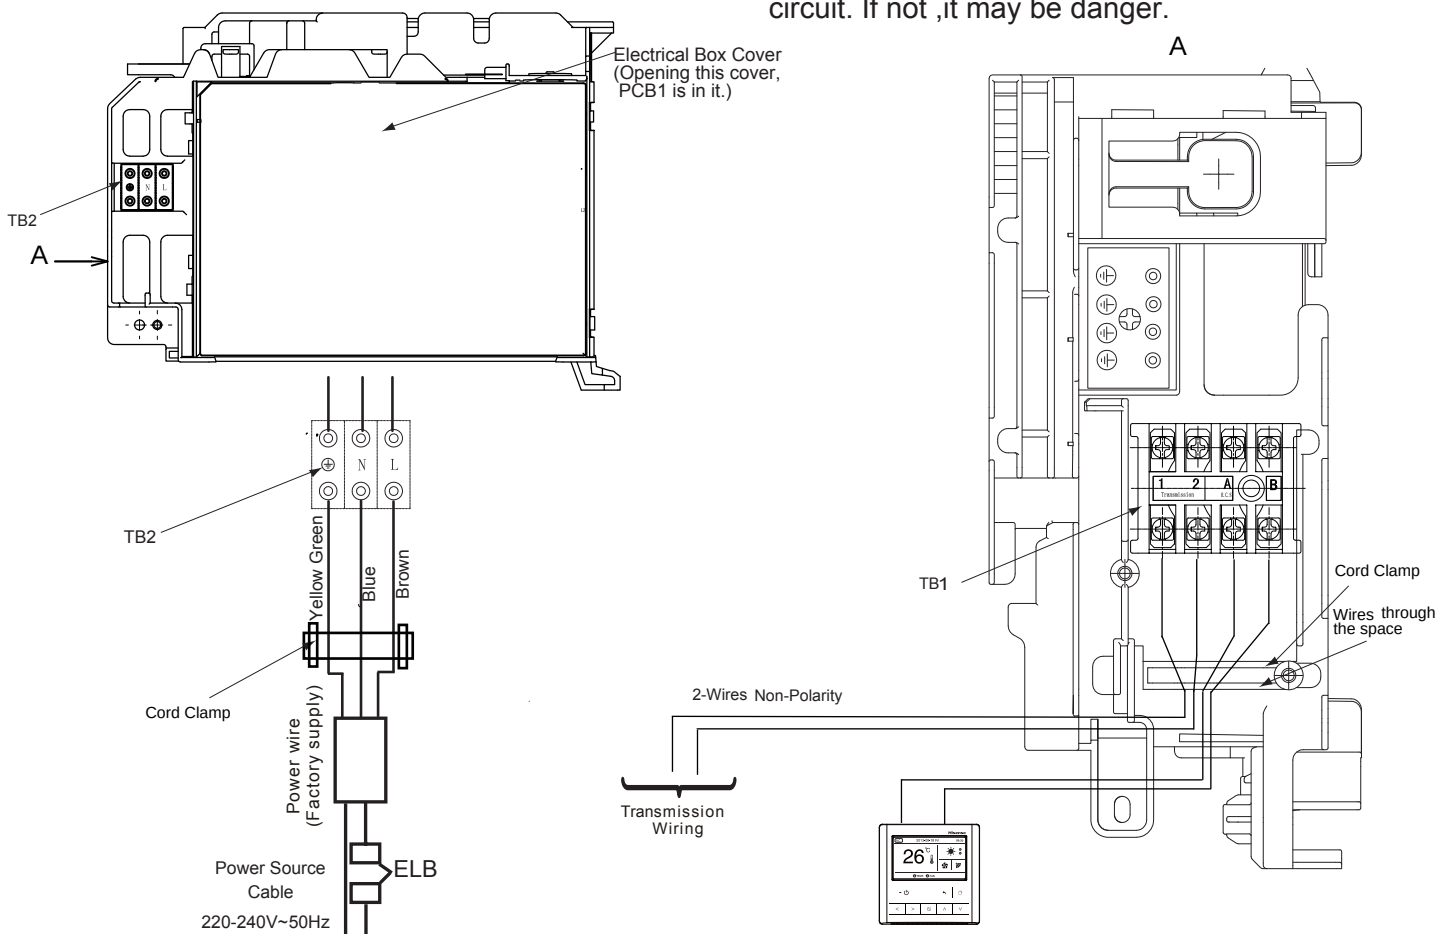

Fig.7.1 Wiring Connection for Electrical Box and Terminal Board
The electrical wiring connection for the indoor unit is shown in Fig. 7.1.
(1) Connect the cable of an optional remote control switch to A, B terminals of the terminal board inside the electrical box through the connecting hole in the cabinet.
(2) Connect the wires between the indoor unit and the outdoor unit to 1,2 terminals of the terminal board inside the electrical box through the connecting hole in the cabinet.
(3) The power supply and earth wires have been connected in the factory. Please connect to the power circuit with a ELB(Fig.7.1).
(4) Connecting the wires to TB1.